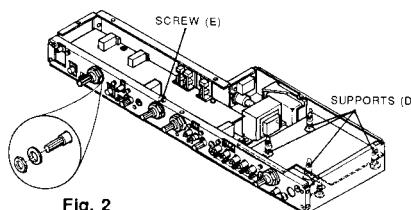

Fig. 2
Remove 4 supports (D). (Fig. 2)
Remove 1 screw (E). (Fig. 2)